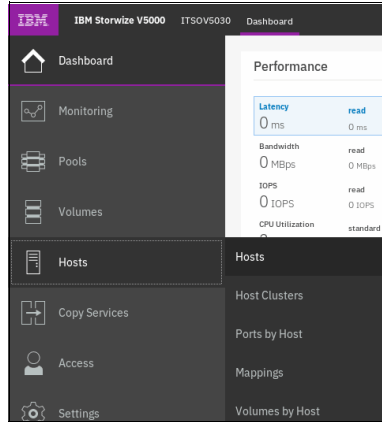

Figure 8-18 Hosts
1. From the main navigation window, select **Hosts**, as shown in Figure 8-18.